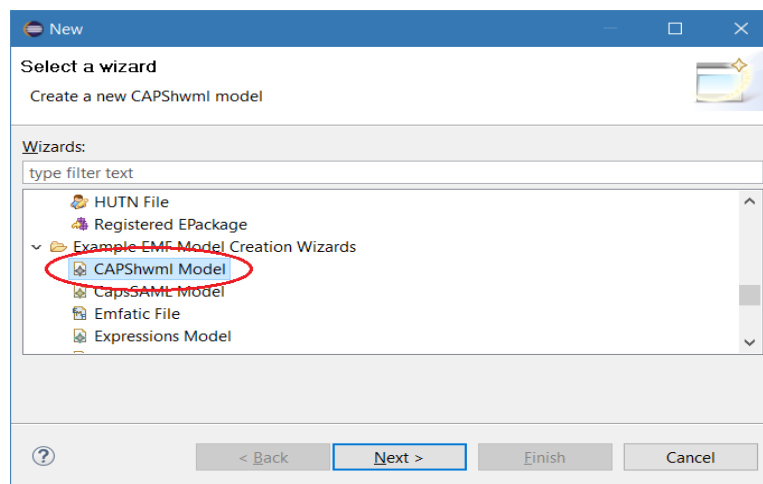

Figure 3.1: Starting HWML
- Now we want to model some hardware. Assume the same scenario we have done so far and let's model the hardware for the **Temperature sensor** (the procedure for the other ones is the same, just change properties and so on). First of all, go to the **project explorer view** on the left (the view where you can see all your folders and files) and right click on the model folder (just like you have done for **SAML**). Click on New then Other and select **CAPShwml Model** (figure 3.1);